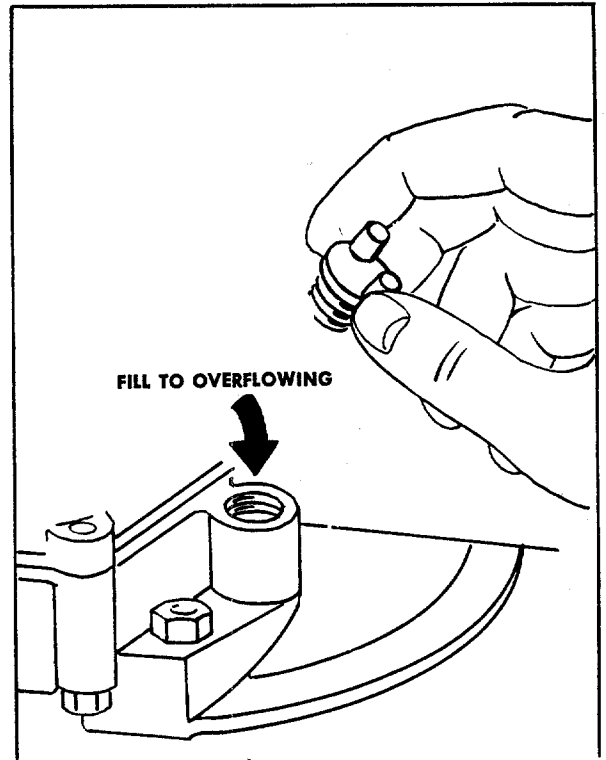

FIGURE 12. OIL FILL
Check the oil level in the crankcase before each use of the machine and after every two hours of operation. Keep the oil level to the overflowing point. See figure 12.
- Step 3. With the machine on level ground, remove the oil filler plug. See figure 12. Fill the crankcase until the oil overflows from the oil fill hole. Fill slowly to avoid air locks. The crankcase holds approximately 1 1/4 pints of good quality SAE 30 type MS engine oil. Replace the oil filler plug.